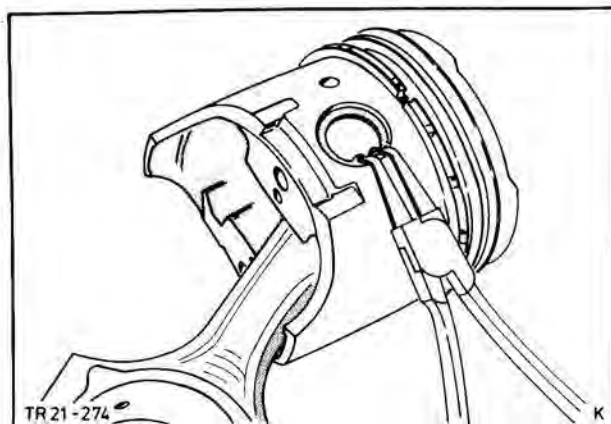

Fig. 213. Remove circlips
1. Remove circlips, Fig. 213, from piston pin bore.